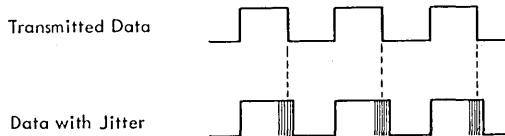

FIGURE 1-28. JITTER
2. **End Distortion** - In Start-Stop telegraphic signals, the shifting of the end of all marking pulses from their proper positions in relation to the beginning of the start pulse is called "end distortion." Marking end distortion denotes a lengthening of the marking bit. Spacing end distortion denotes a lengthening of the spacing bit (Mark bit is shortened). See Figure 1-28.
that fortuitous distortion means random disturbances. Another example of fortuitous distortion is "jitter". Jitter is the random variation in bit length due to noise or modulation process. Jitter cannot, for the most part, be adjusted. Oscilloscope observation of a specific character being received continuously will reveal jitter. Measurement of the maximum variation will reveal peak jitter in percent. Jitter will be covered further in the telegraphic diagnostic session. Figure 1-28 depicts jitter as it would be observed on an oscilloscope.